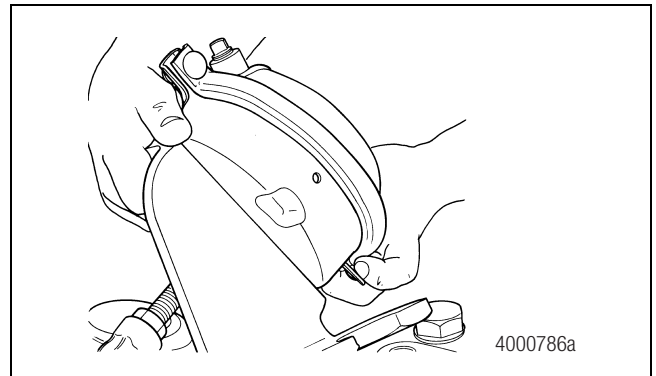

Figure 6.14
10. Install the air brake chambers and brackets. Tighten the bracket mounting capscrews to the correct torque. Refer to Section 8. Figure 6.14.